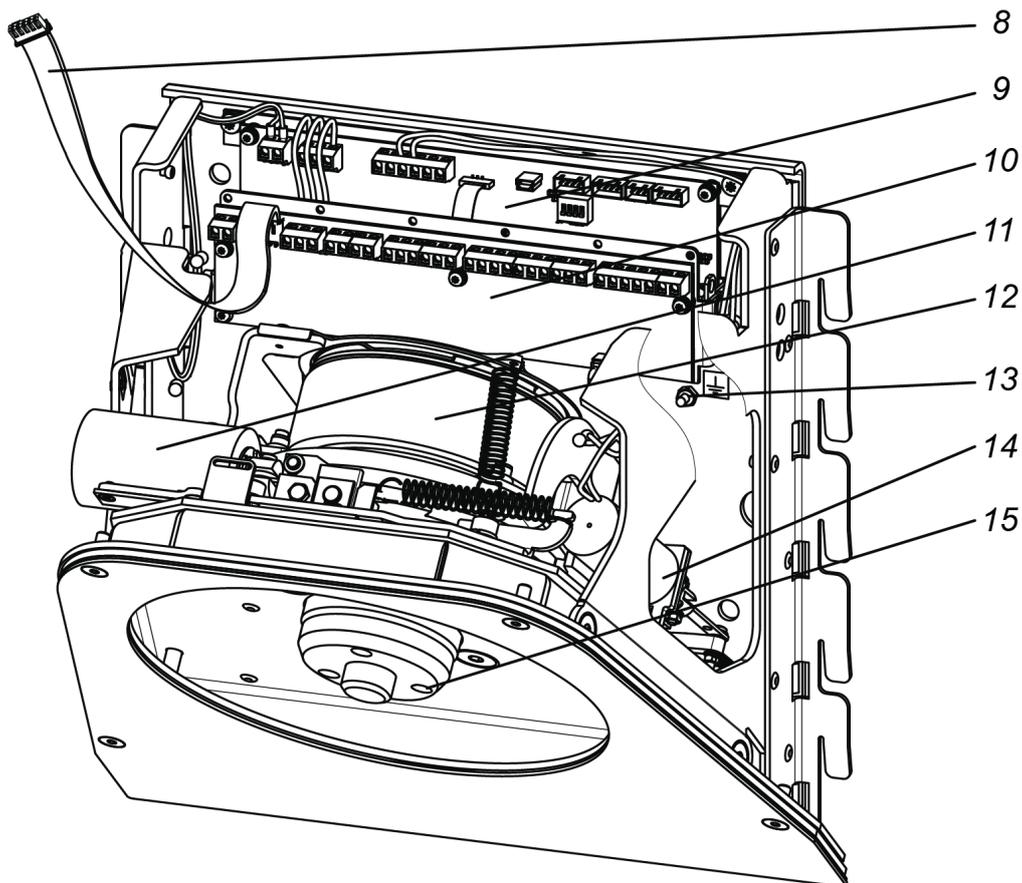

Figure 6. The internal turnstile components (with the housing and the hub removed)
All nodes of the turnstile mechanism are connected to the control board with internal wiring. A turnstile power source is connected to it with an external cable as well. Connection is made in accordance with the connection layout (Fig. 17). The appearance of the control board (9) (Fig. 6).